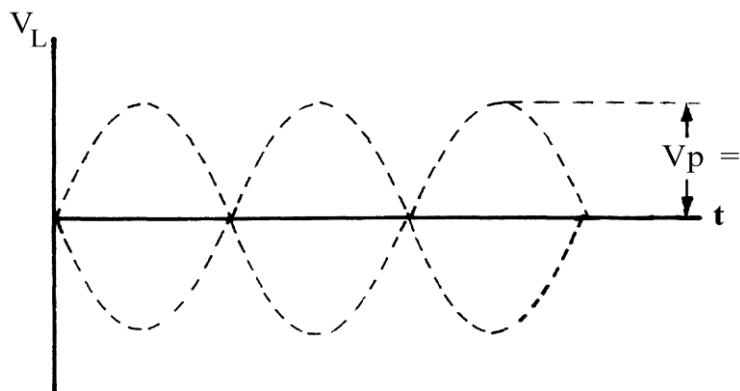

Figure 10
- Draw the output voltage (V_{RL}) waveform in detail as measured by the oscilloscope on the axes shown in Fig. 10 on the next page and record the voltage value next to V_p (peak voltage).